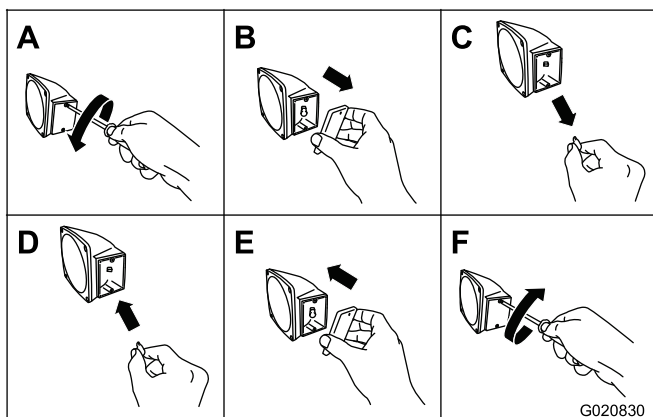

Figure 63
1. Use a screwdriver to remove the 2 screws from the small rectangular lens on the side of the light (Figure 63).
2. Remove the lens (Figure 63).
3. Pull the bulb out of the socket (Figure 63).
4. Push a new 168 bulb into the socket (Figure 63).
5. Install the lens and the 2 screws (Figure 63).